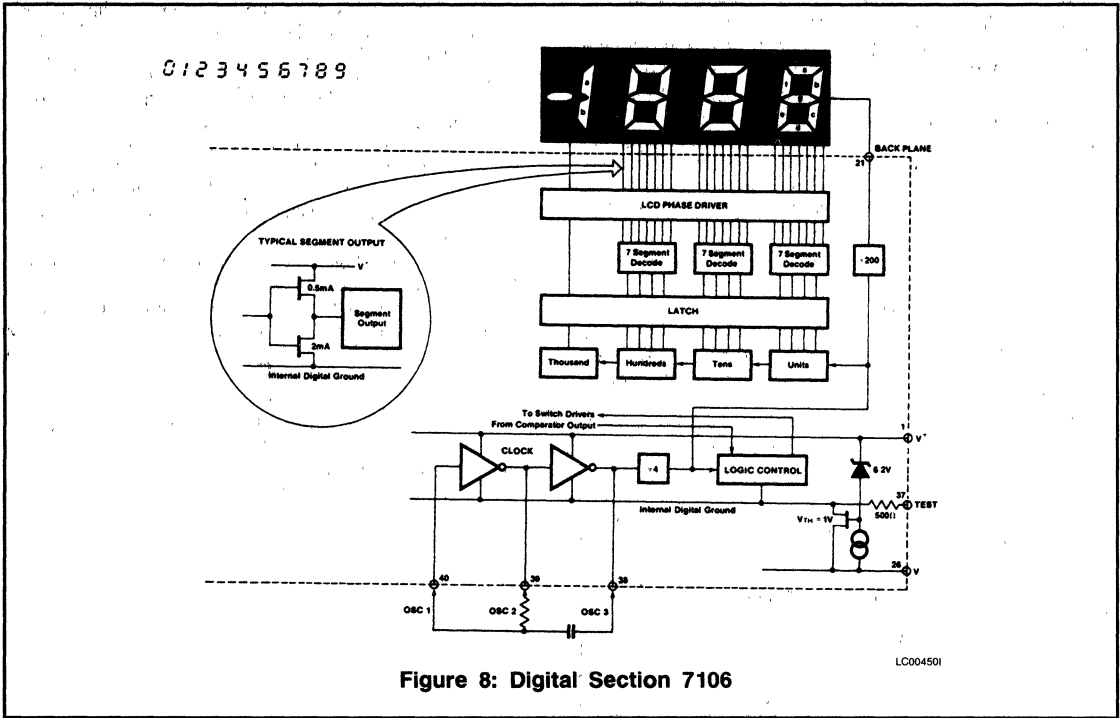

Figure 8: Digital Section 7106
The TEST pin serves two functions. On the 7106 it is coupled to the internally generated digital supply through a 500 Ω resistor. Thus it can be used as the negative supply for externally generated segment drivers such as decimal points or any other presentation the user may want to include on the LCD display. Figures 8 and 9 show such an application. No more than a 1mA load should be applied.
Figures 8 and 9 show the digital section for the 7106 and 7107, respectively. In the 7106, an internal digital ground is generated from a 6 volt Zener diode and a large P channel source follower. This supply is made stiff to absorb the relative large capacitive currents when the back plane (BP) voltage is switched. The BP frequency is the clock frequency divided by 800. For three readings/second this is a 60Hz square wave with a nominal amplitude of 5 volts. The segments are driven at the same frequency and amplitude and are in phase with BP when OFF, but out of phase when ON. In all cases negligible DC voltage exists across the segments.